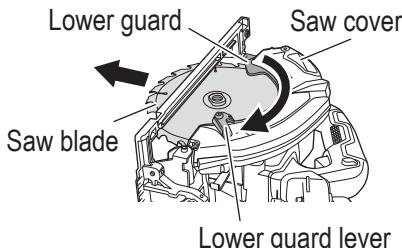

Fig. 14
(2) While holding the lower guard lever to keep the lower guard fully retracted into the saw cover, remove the saw blade (Fig. 14).
The lower guard (refer to **Fig. 14**) serves to protect your body from coming into contact with the saw blade. Make absolutely certain that the cover smoothly performs to cover the saw blade. If the lower guard should not move smoothly, never use it without repairing it.